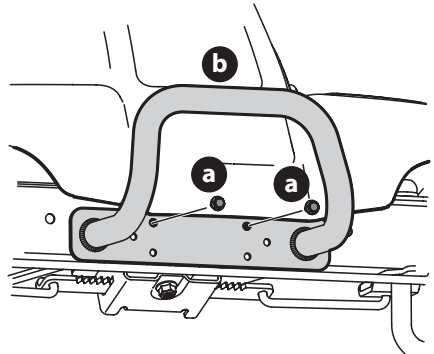

Figure 17
1. Remove the two screws (a) (Figure 17).
2. Position the bumper (b) over the mounting holes and secure using the screws (a) removed in Step 1 (Figure 17).